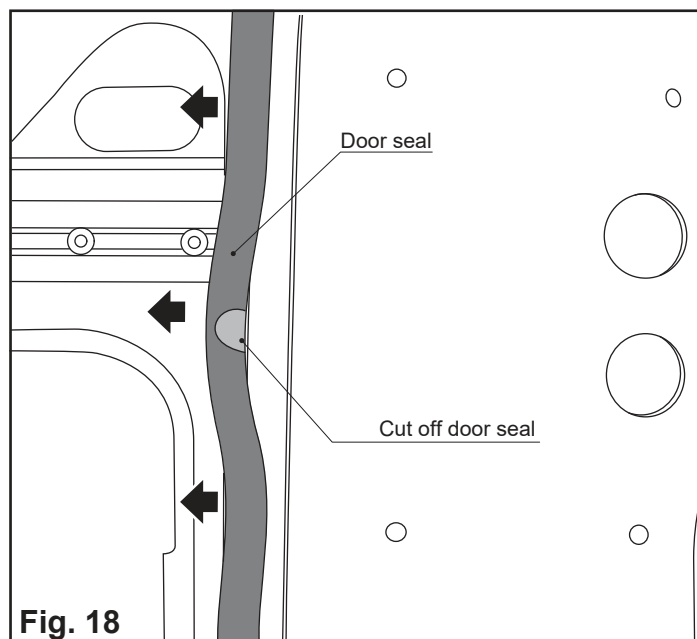

Fig. 18
- With screws M6x40 (fig. 18)
Remove the door seal in the mounting area of the bracket Fig. 18.
A piece must be cut out of the door seal in the area of the ball, Fig. 18.